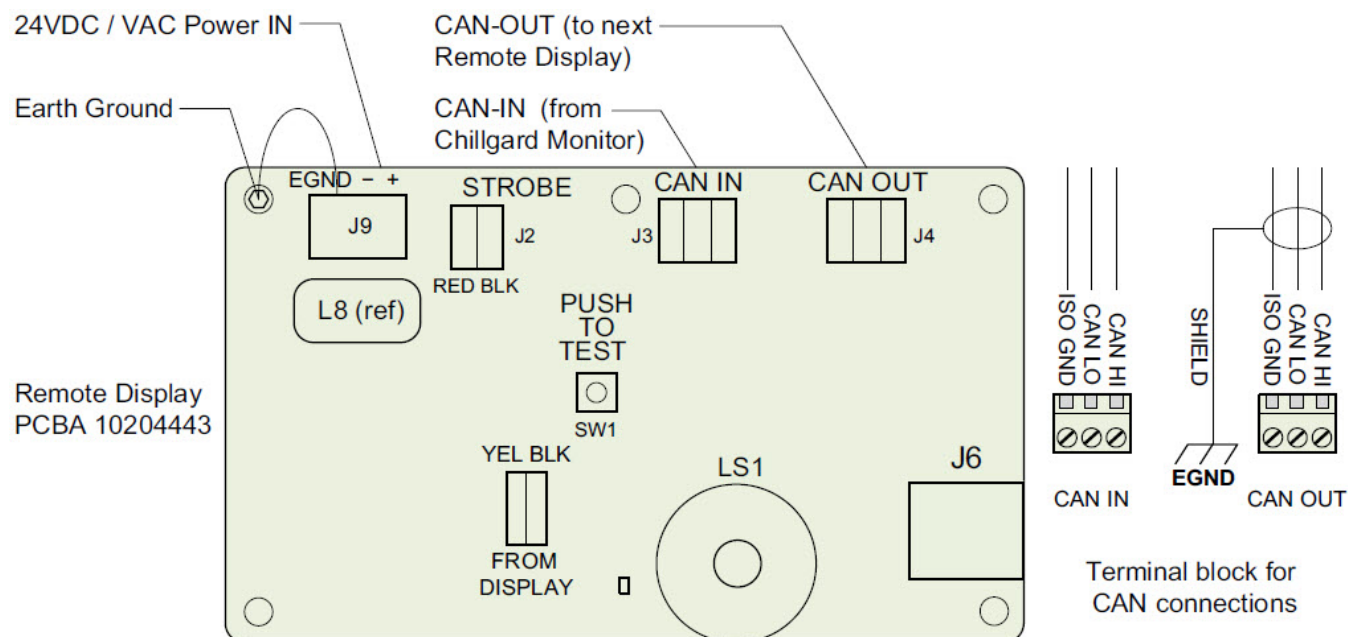

Figure 12 Remote Display Wiring Diagram
The remote display Wiring Diagram (Fig. 12) gives the details of the wiring requirements for the device.
4. Plug the green two position connector into the PC board (Strobe) header as shown in Fig. 12.
1. Press the push button on the PCB (See Fig. 12). Together with the audible tone, the strobe should give a visual signal.